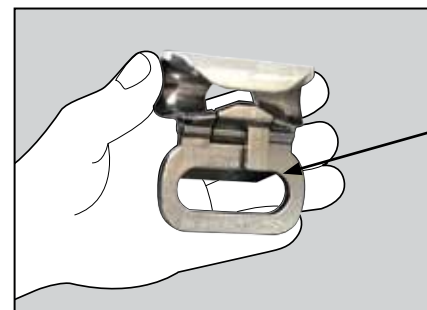

Figure 27 – KeeLine® II Traveller
- If using the KeeLine® II Traveller, it has been fitted to the rope and the push button been engaged so the traveller cannot be removed accidentally. See Figure 27.